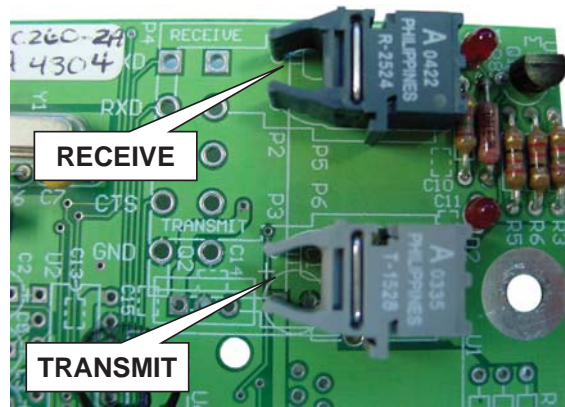

Figure No 10
4. Referring to Figure No. 10, connect the fiber that has the mark to the TRANSMIT connector on the option card.